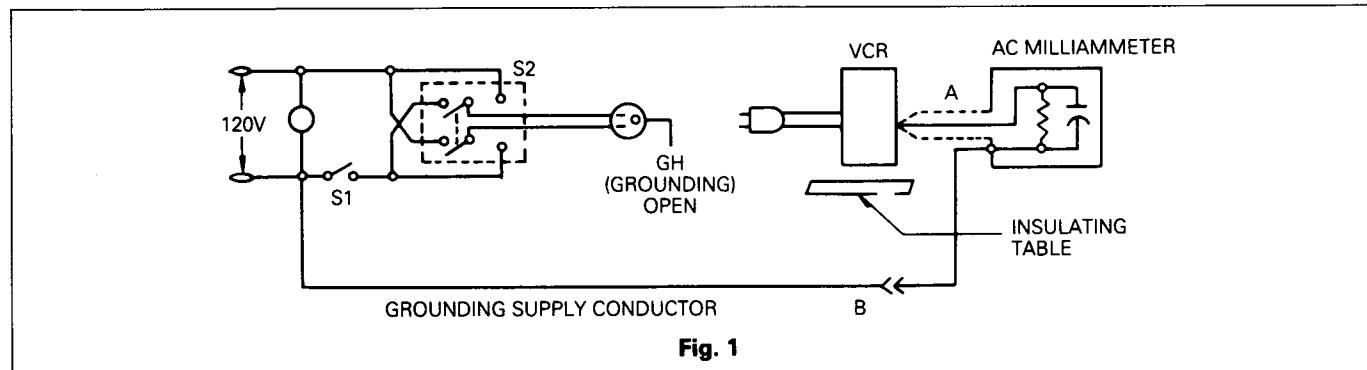

Fig. 1
The test sequence, with reference to the measuring circuit in Fig. 1 is as follows:
- A. Remove the four screws (Ⓐ ~ Ⓞ) on each side retaining the top cover as shown in Fig. 1.